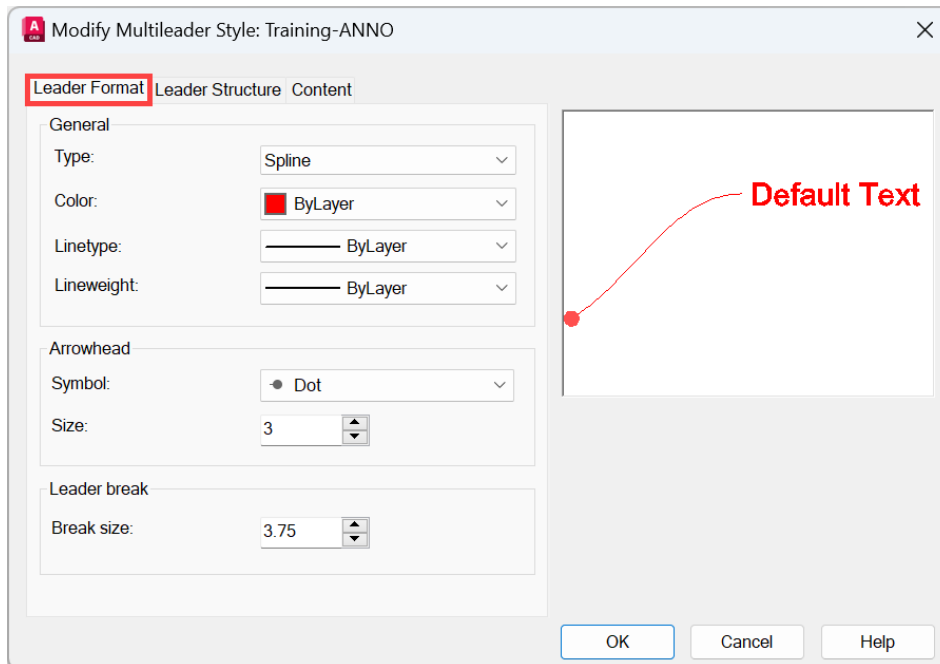

Figure 7.26: The Modify Multileader Style dialog box set to the Leader Format tab
6. You will now see a very familiar dialog box. It looks like the one you used for your annotative dimension style, but you are now developing an annotative multileader style. Ensure you have the **Leader Format** tab current and set it to the settings shown in *Figure 7.26*.